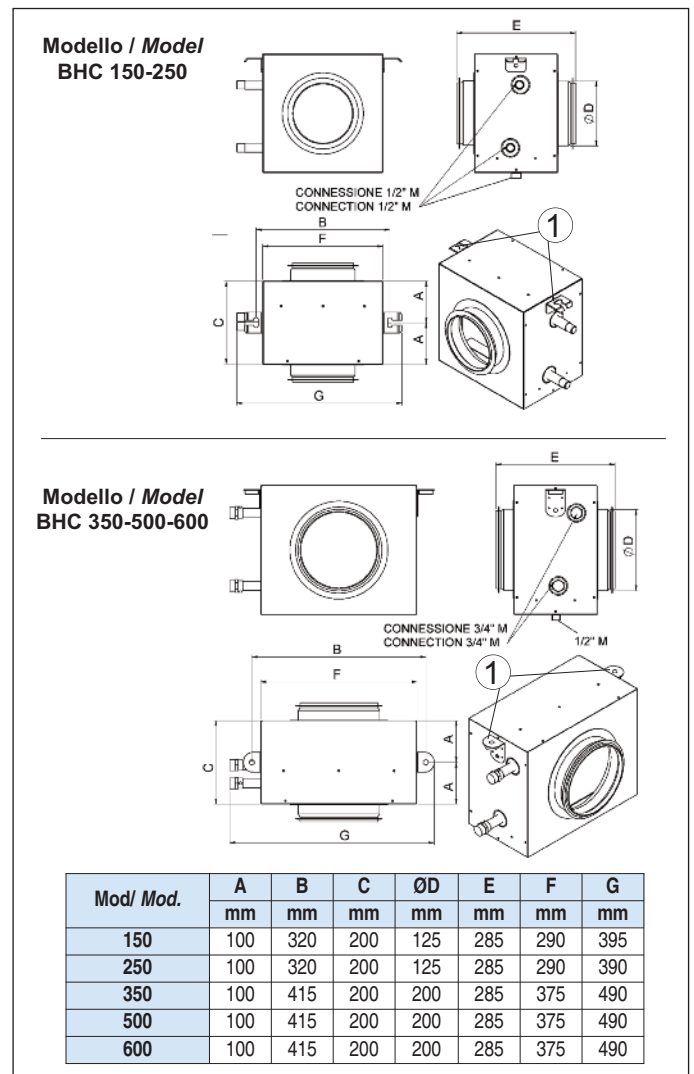

fig. 7
- **Il modulo BHC è dotato di involucro integrale con scarico condensa, che deve essere sifonato come riportato in fig. 7.**
- **The BHC module is equipped with a complete casing with a condensate drain, which must be sifonated as shown in fig. 7.**
- Be sure that the section is well supported by the hooks (1) shown in the pictures 6 and 7; never stress air ducts or, worse, coil headers while tightening water connections.